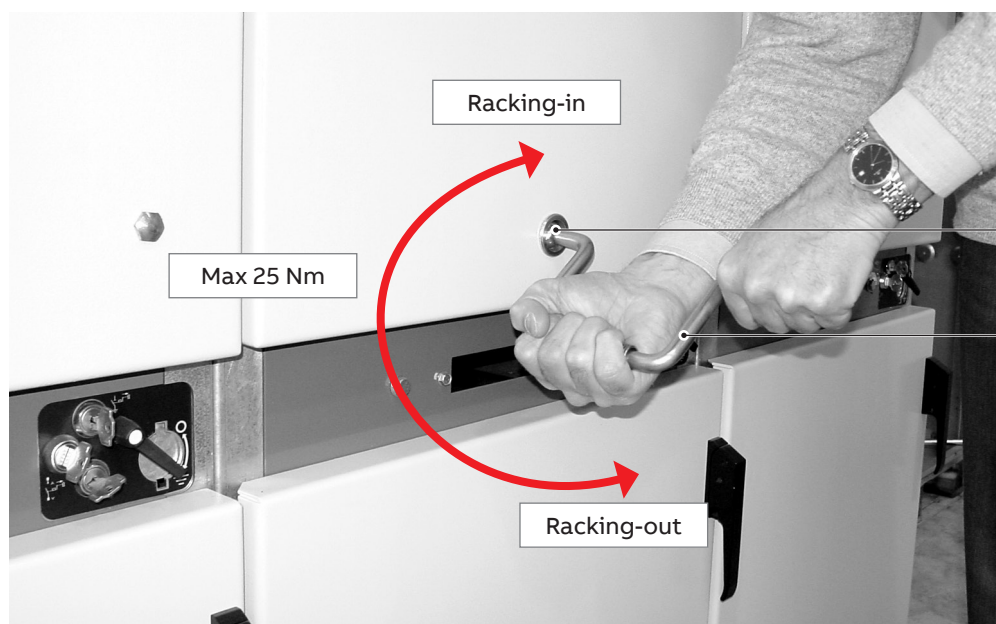

Fig. 7
- Insert the manual racking-in lever (1) in the special coupling (2) Fig. 7, and take the motorized truck to about half its run between the isolated for test and the connected position. The torque needed to carry out truck handling is $< 25 \text{ Nm}$.
- Remove the manual lever (1) from the coupling (2) Fig. 7